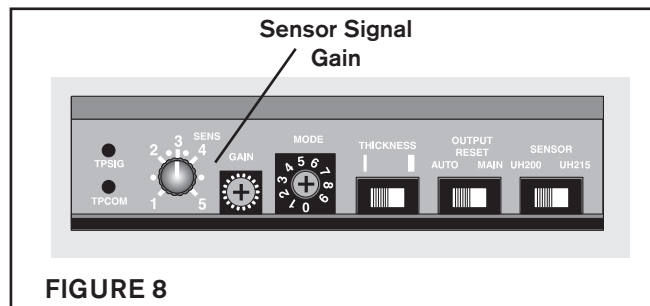

FIGURE 8
5. Adjust the Sensor Signal Gain until the red LED for Web Break or Double Feed/Splice goes out and the green LED for Normal Run comes on (See Figure 8).